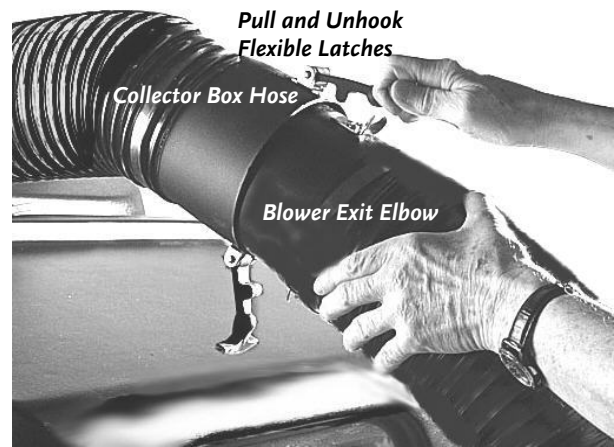

Figure 10
1. Disconnect the Collector Box Inlet Hose from the Blower Exit Elbow Assembly by releasing the two (2) Flexible Latches (**Figure 10**).